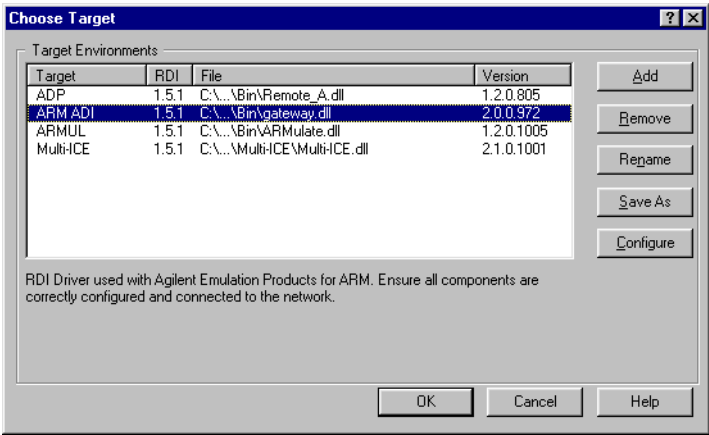

Figure B-15 Debugger Configuration dialog box
- 2. Select **Options** → **Configure Target**, as shown in Figure B-15.